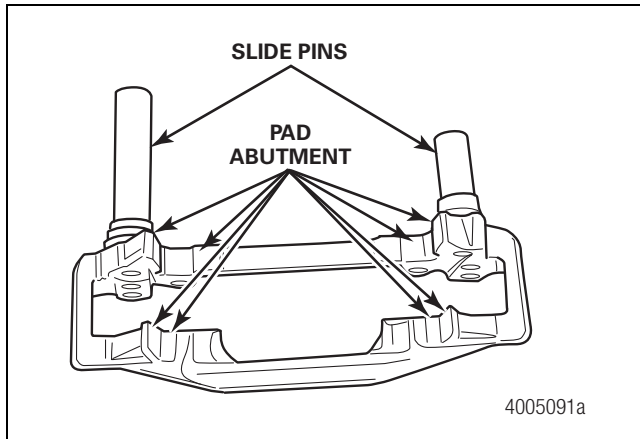

Figure 6.26
2. Clean and inspect the carrier for damage and wear. Refer to the inspection steps in Section 5. Pay particular attention to the pad abutment areas and slide pins. Figure 6.26.